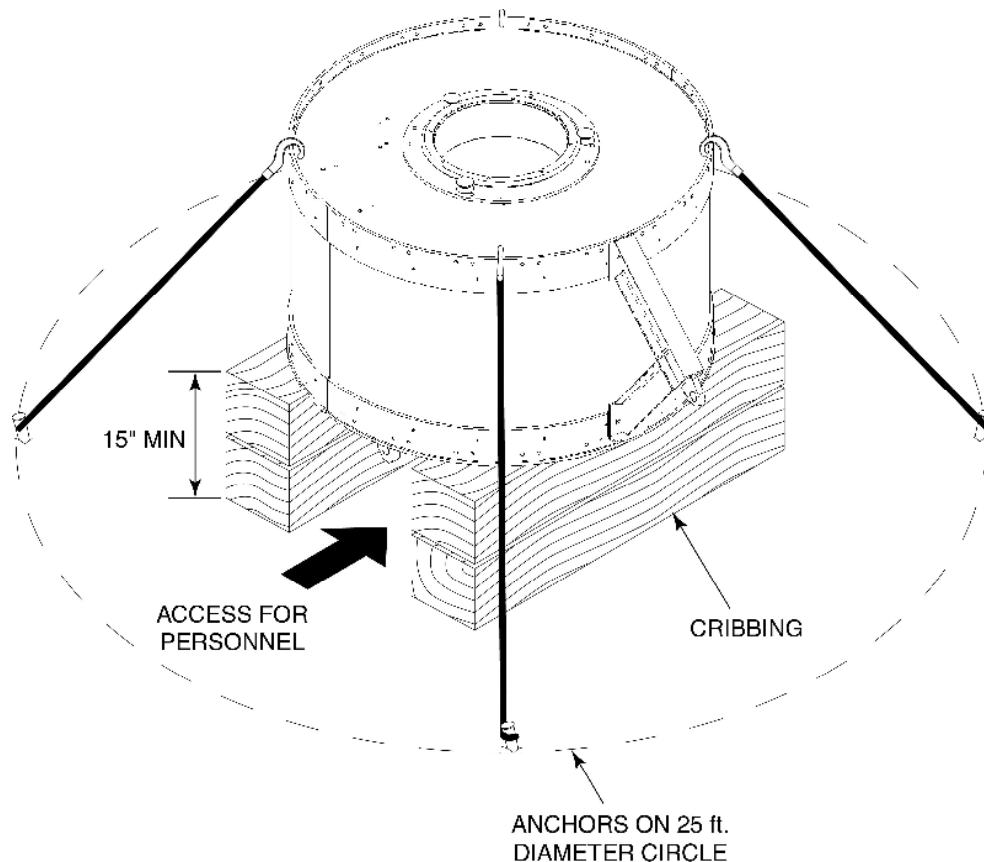

Figure 3-3. Secured Hub
1. Position the hub assembly on cribbing 15" high minimum. Cribbing should provide a stable platform for building the reflector. If stacked smaller boards are used, they should be secured to each other using wood screws or nails. (See Figure 3-3.)
2. Secure the hub to the ground using straps and ground anchors as a precaution against the reflector being overturned by wind during assembly. Hooks may be placed over the upper lip of the hub as shown in Figure 3-3. Straps should be placed in locations on the hub so as not to interfere with radial beam installation.